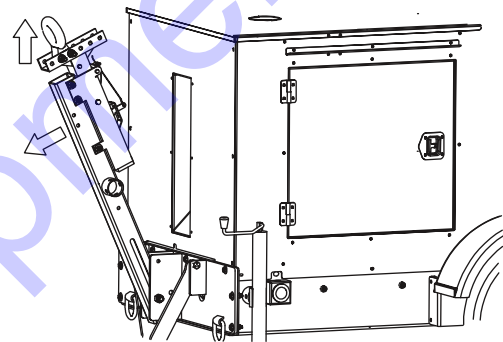

Figure 2-11. Lower Tongue
7. See **Figure 2-11**. Lower the trailer tongue and install bolts (**E**) removed in step 4 with **new** nylon lock nuts. Do not tighten until bolt (**G**) is installed and tightened.